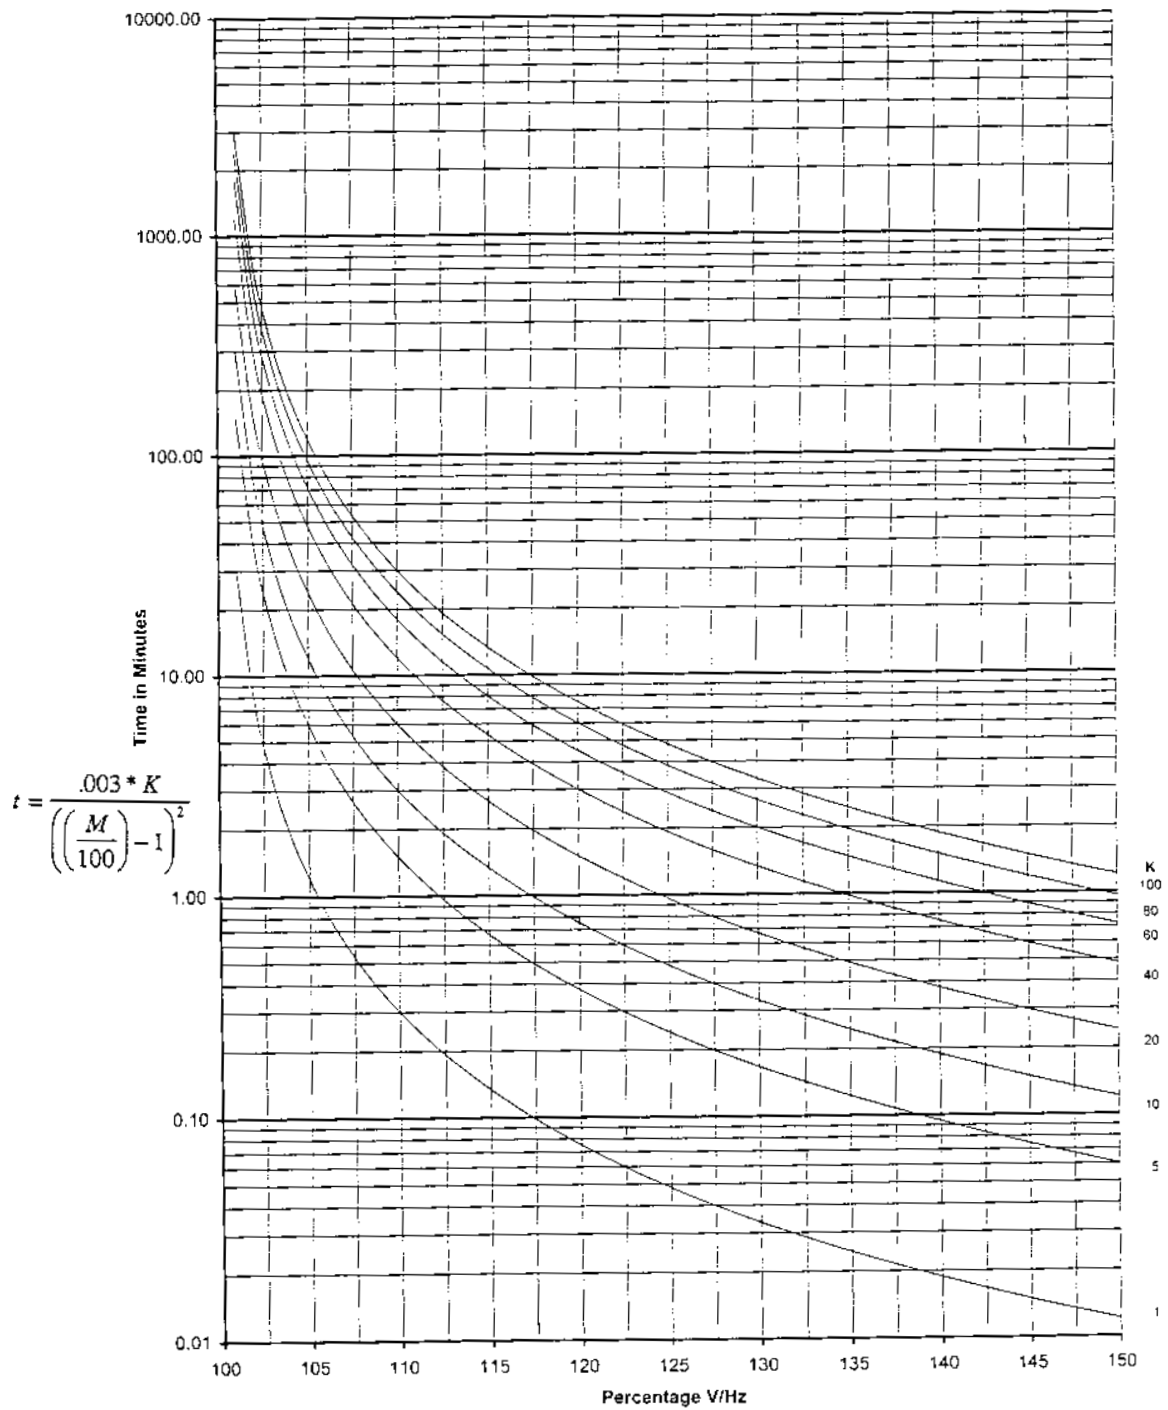
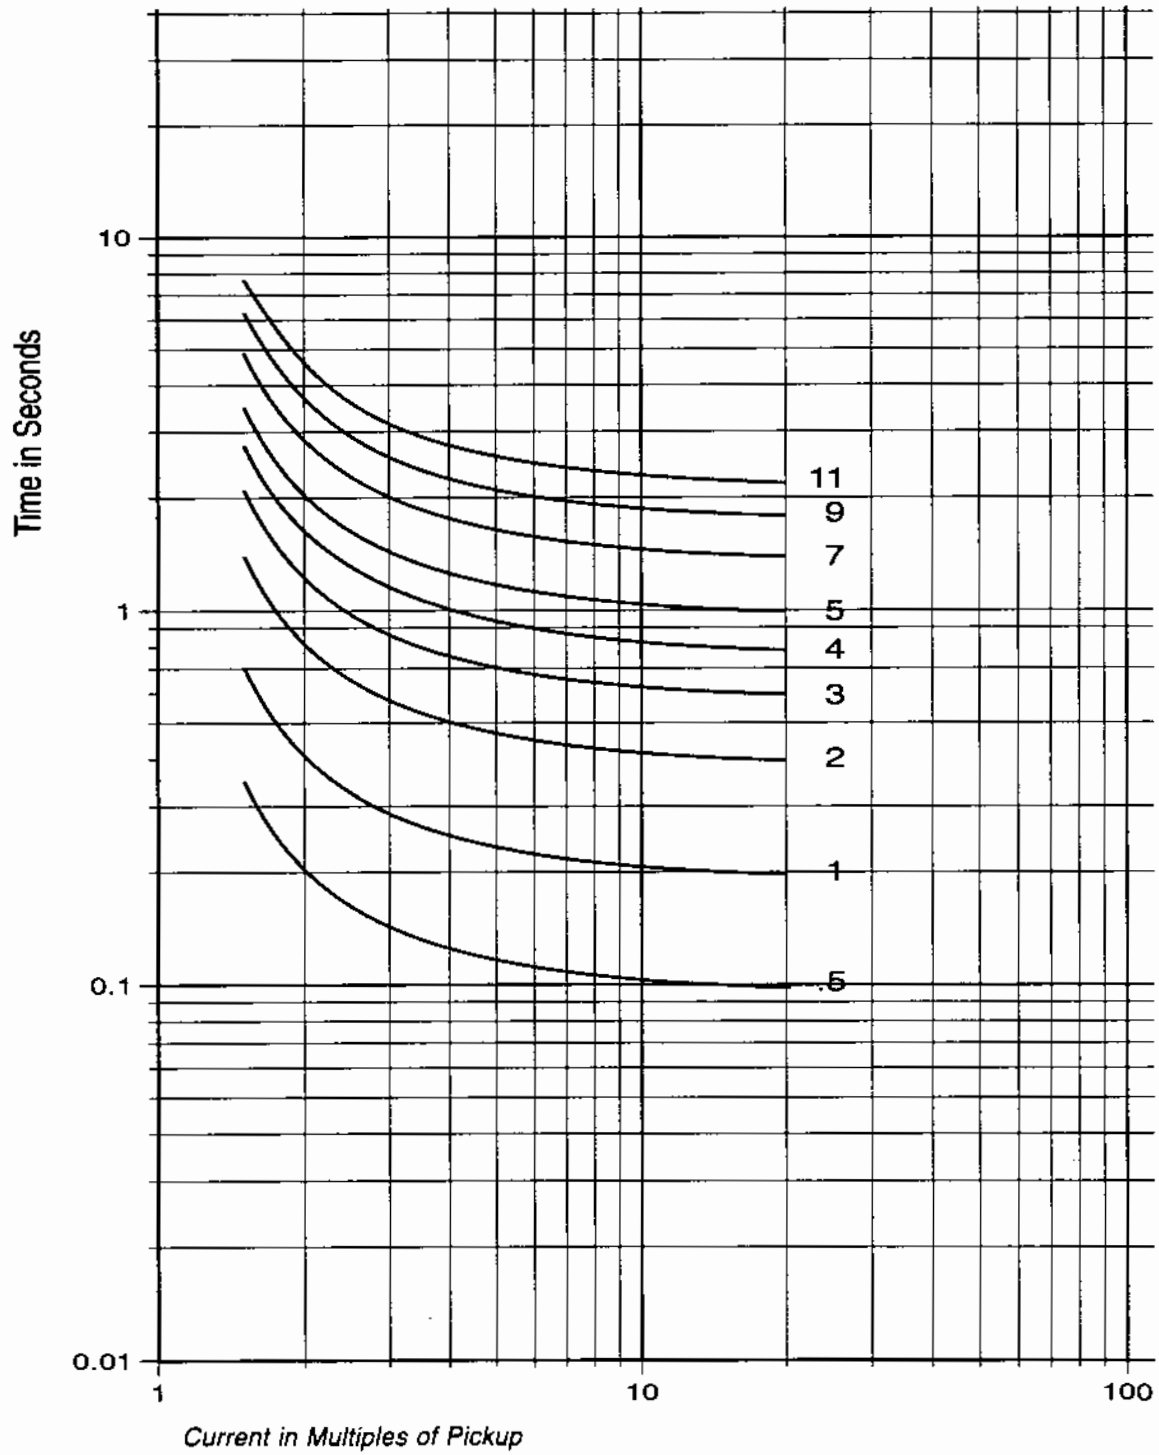

Figure D-1 Volts/Hz (24IT) Inverse Curve Family #1 (Inverse Square)
Figure D-5 Definite Time Overcurrent Curve
This Appendix contains three sets of Inverse Time Curve Families. The first set is used for Volts per Hertz functions (Figures D-1 through D-4), the second set is for the M-3311A functions which utilize the IEC time over current curves (Figures D-5) through D-12) and the third set is for those functions that utilize the IEEE Inverse Time Overcurrent Curves (Figures D-13 through D-15).
■ **Note:** Figures D-1 through D-4 are Volts per Hertz curves. Figures D-5 through D-12 are inverse time curves for 51, 51N, 51G and 46 functions.